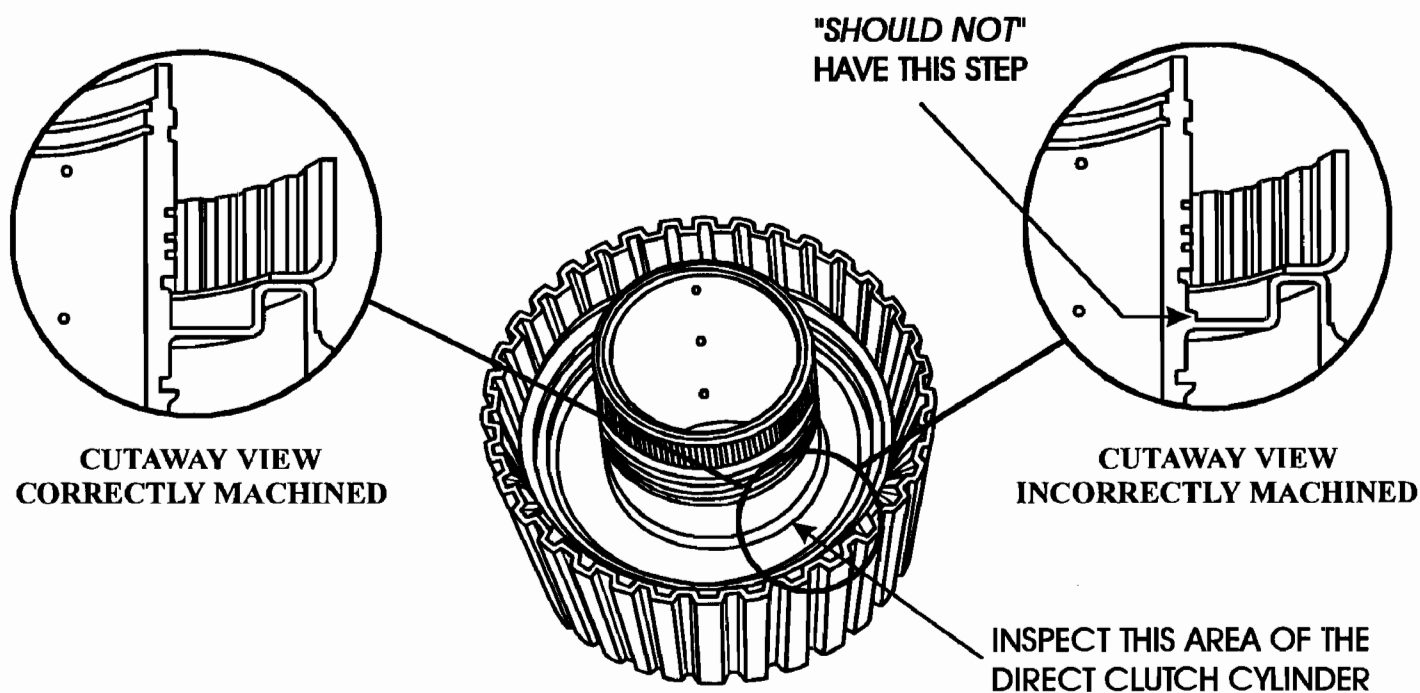

Figure 1
**CAUSE:** The cause may be, a mis-machined direct/intermediate clutch cylinder, as shown in Figure 1, or the direct clutch steel plates binding in the clutch cylinder due to cylinder being out of round.
**CORRECTION:** Inspect the direct clutch cylinder hub machining in the area shown in Figure 1, and replace clutch cylinder as necessary. Check for free movement of the steel clutch plates in the direct clutch cylinder by installing and removing the plates, and turning the plates 2-3 splines each time. Replace direct clutch cylinder as necessary. Also the 3 tabs on the servo spring retainer must fit on the outside edge of the spring as shown in Figure 2. Replace the servo spring retainer if it is bent or damaged from an incorrect installation.